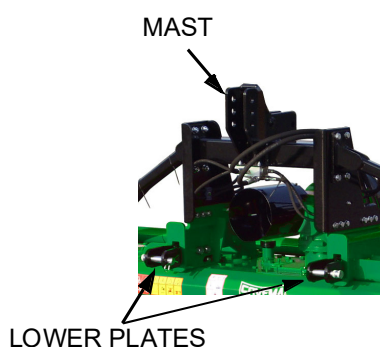

Figure 1
1. Connect the tractor two lifting arms to the lower plates of the implement by using two hitch pins and two cotter keys to lock pins in place (see Fig. 1)
2. Connect the tractor top link to the mast of implement by using hitch pin and a cotter key to lock pin in place (see Fig. 1)